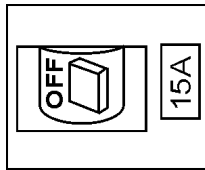

Figure 9. Main Circuit Breaker (OFF)
2. **NEVER** start the engine with the main circuit breaker in the **ON** position. Always place this circuit breaker (Figure 9) in the **OFF** position before starting.